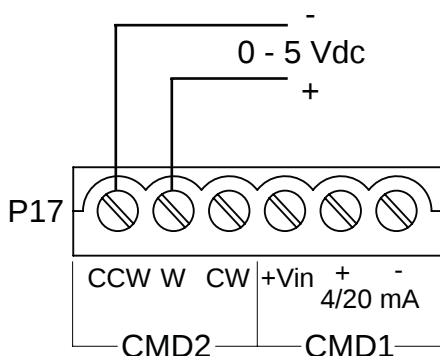

Figure 13. Voltage Connection.
**Note: Phase reference terminals in Figure 13 DO NOT get connected to the remote firing circuit.**